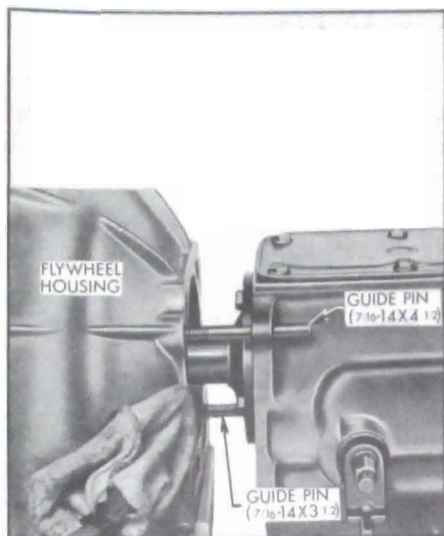

Figure 4-13—Transmission Guide Pins
install a 7/16-14 x 4-1/2 inch guide pin; remove lower right bolt and install a 7/16-14 x 3-1/2 inch guide pin. See Figure 4-13.
2. Make certain that front face of transmission case and rear face of flywheel housing are absolutely clean. Install a 7/16-14 x 4-1/2 inch guide pin in upper left flywheel housing hole; install a 7/16-14 x 3-1/2 inch guide pin in lower right hole. See Figure 4-13.